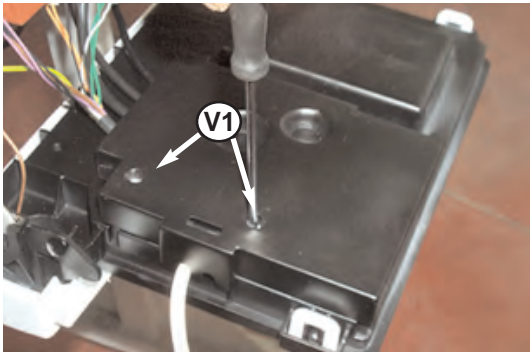

Fig. 95
4. Remove the two screws "V1" (see Fig. 95);